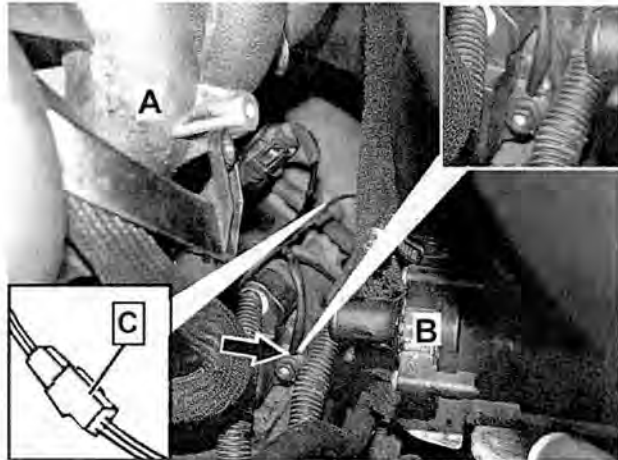

Figure 14
26. Remove nut then remove cable (arrow, Figure 14) from starter solenoid.
27. Disconnect engine sub-harness connector (C, Figure 14) connected to main engine harness connector.